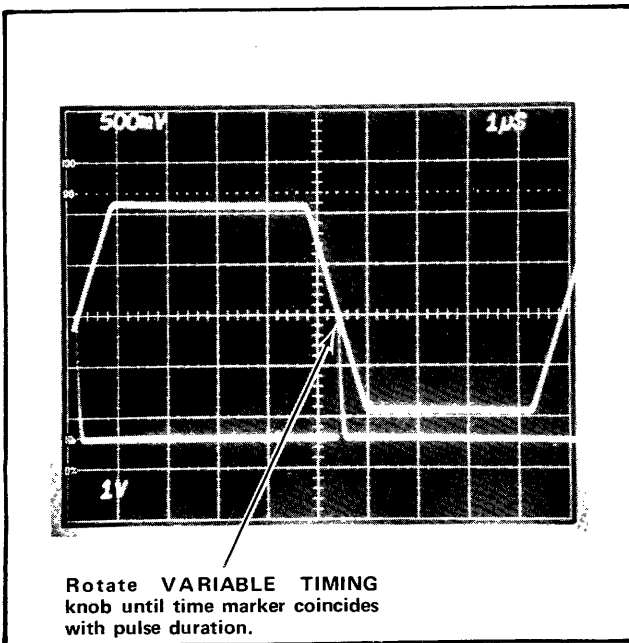

Fig. 1-6. Measuring Pulse Duration.
8. To check the timing of pulse duration, rotate the VARIABLE TIMING knob until time marker coincides with pulse duration, as shown in Fig. 1-6.